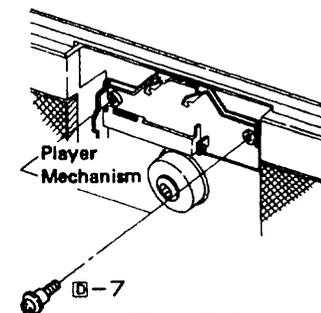

Figure 5-3
7. Remove two screws at the player mechanism. See Fig. 5-3. Shifting the player mechanism a little forwards, remove the leads from the wire holder, then the player mechanism can be taken out – at the time, take care not to break the leads of the PWB-E2 which is still attached to the unit.